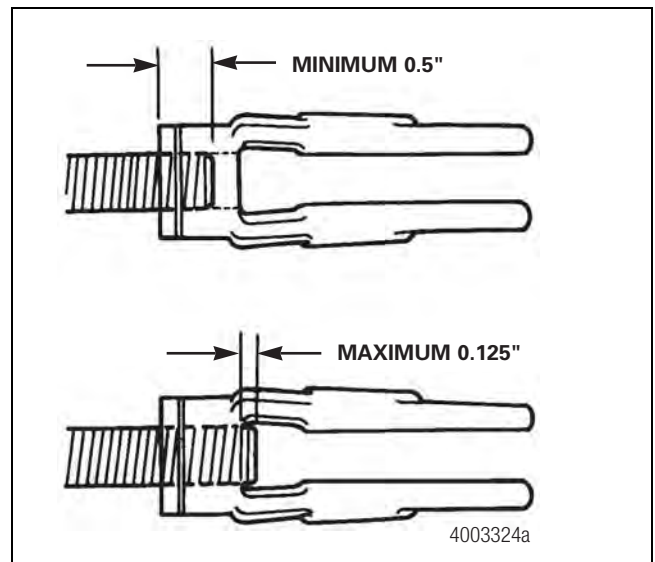

Figure 11.26
- The push rod must not extend through the clevis more than 0.125-inch (3.18 mm). Figure 11.26.